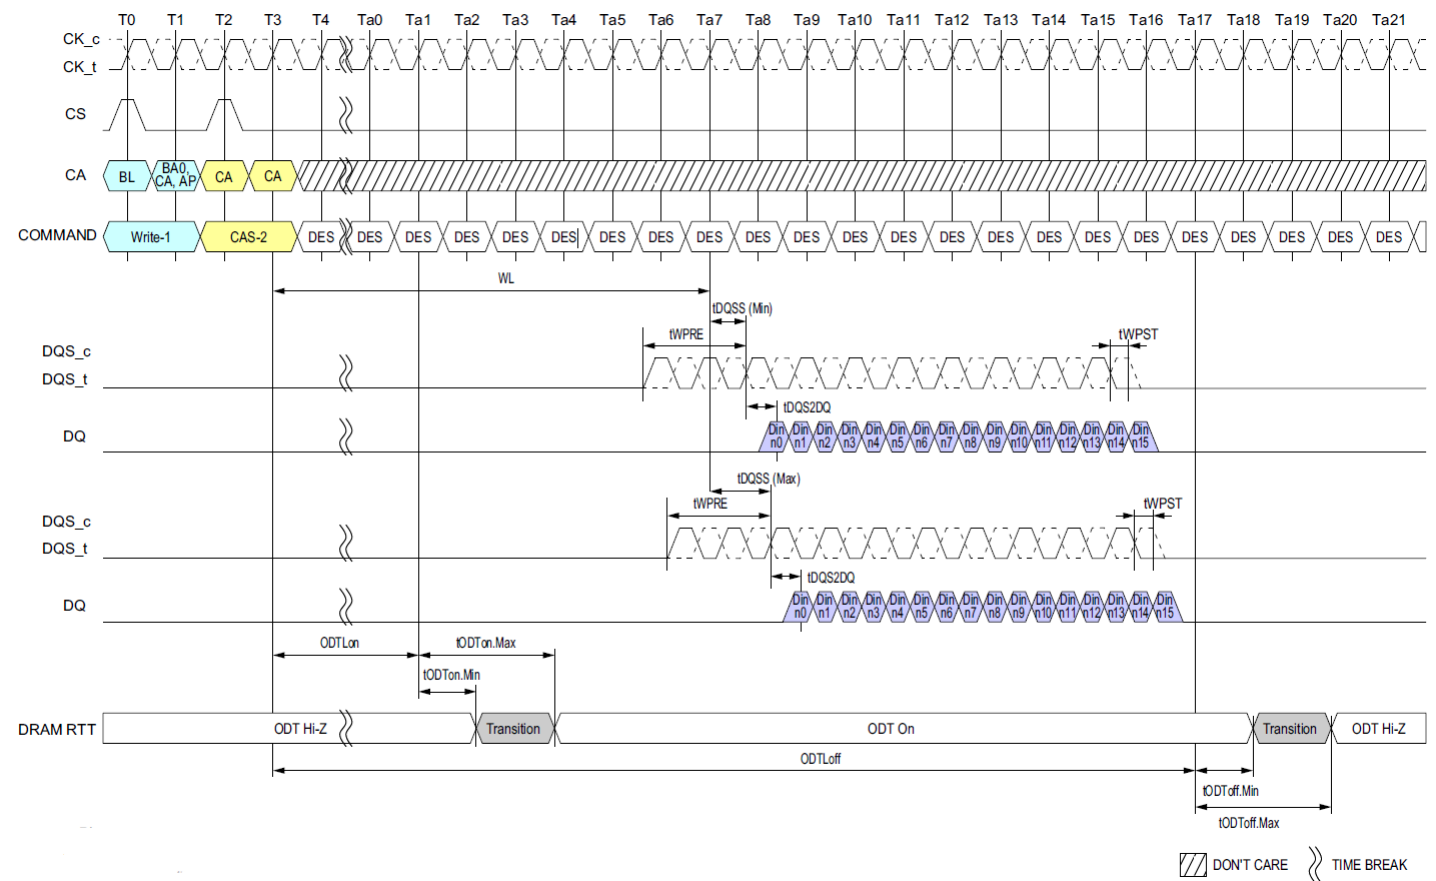

Figure 129: Asynchronous ODTon/ODTOff Timing
1) ODTLon is referenced from CAS-2 command. See Figure 129.